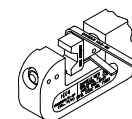

FIG. 3
2. Slide the die removal tool between the die and tool body. (See Figure 3) Pull the die opener back to retract the die against the removal tool. The die will be released and can be removed by hand.